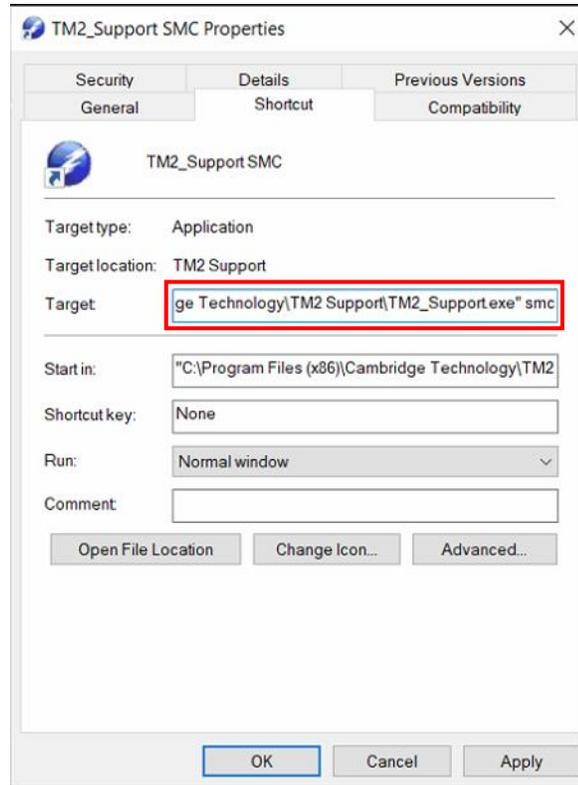

Figure 34: Editing the TM2_Support SMC shortcut properties
8. In the *Target* field add the text `smc` at the end of the string as shown in Figure 34 on page 81.